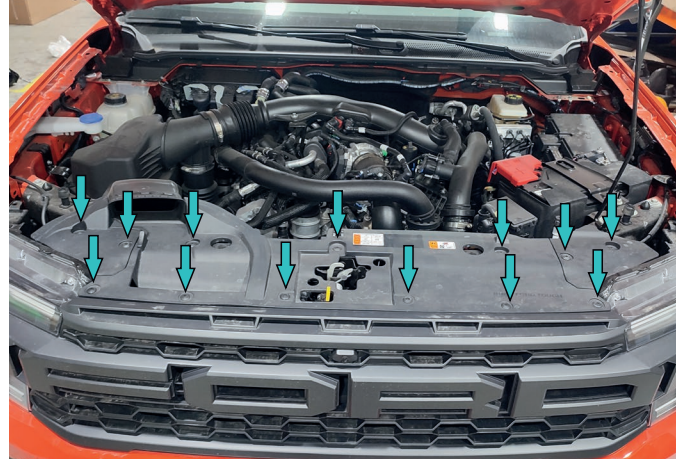

Fig.8
8. Release the phillips head clips to remove the top cover (fig.8).